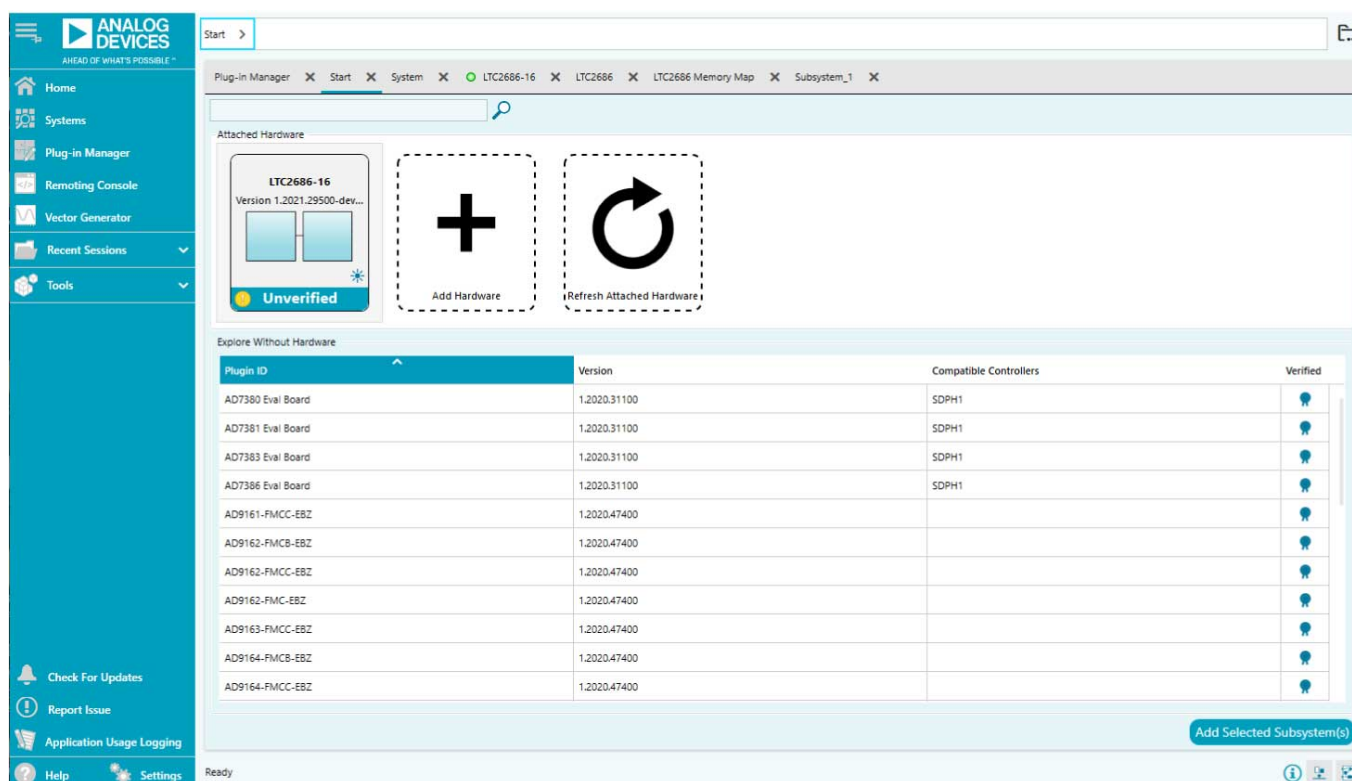
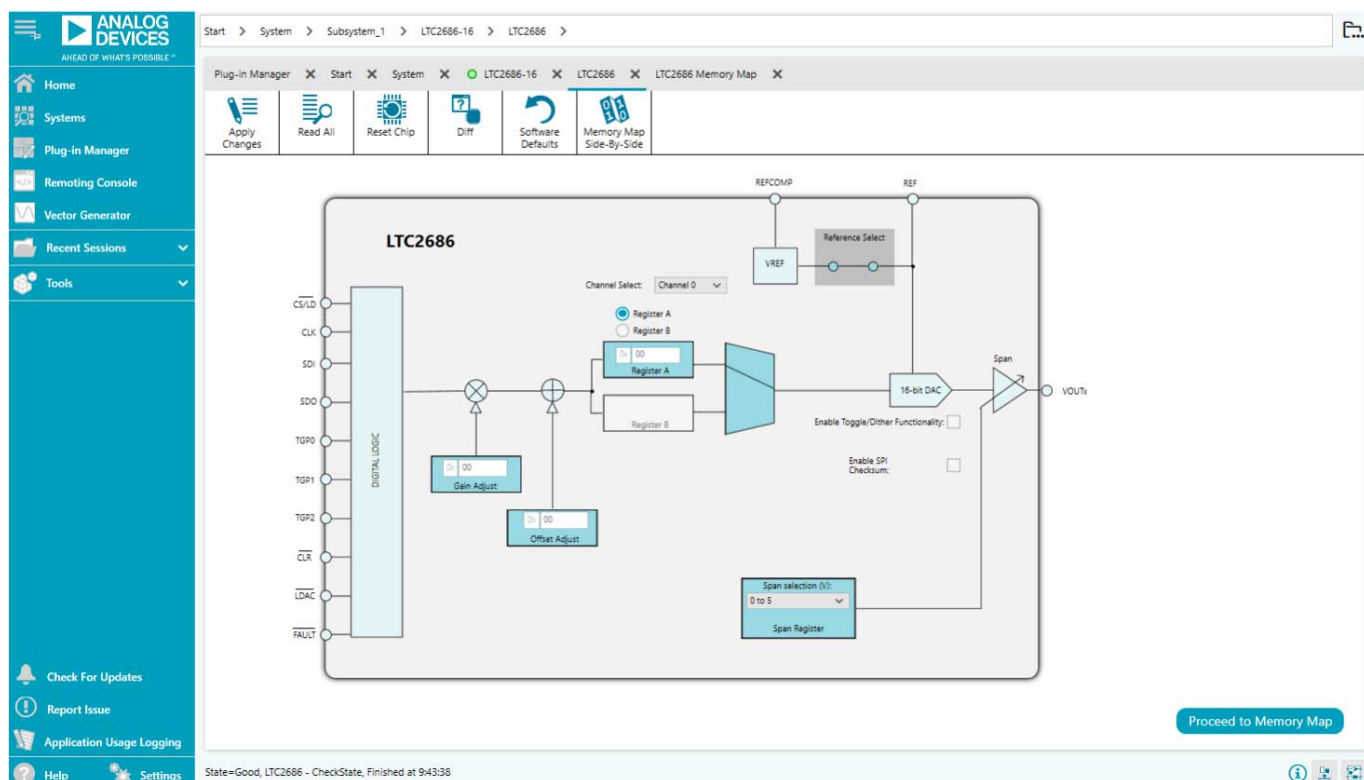
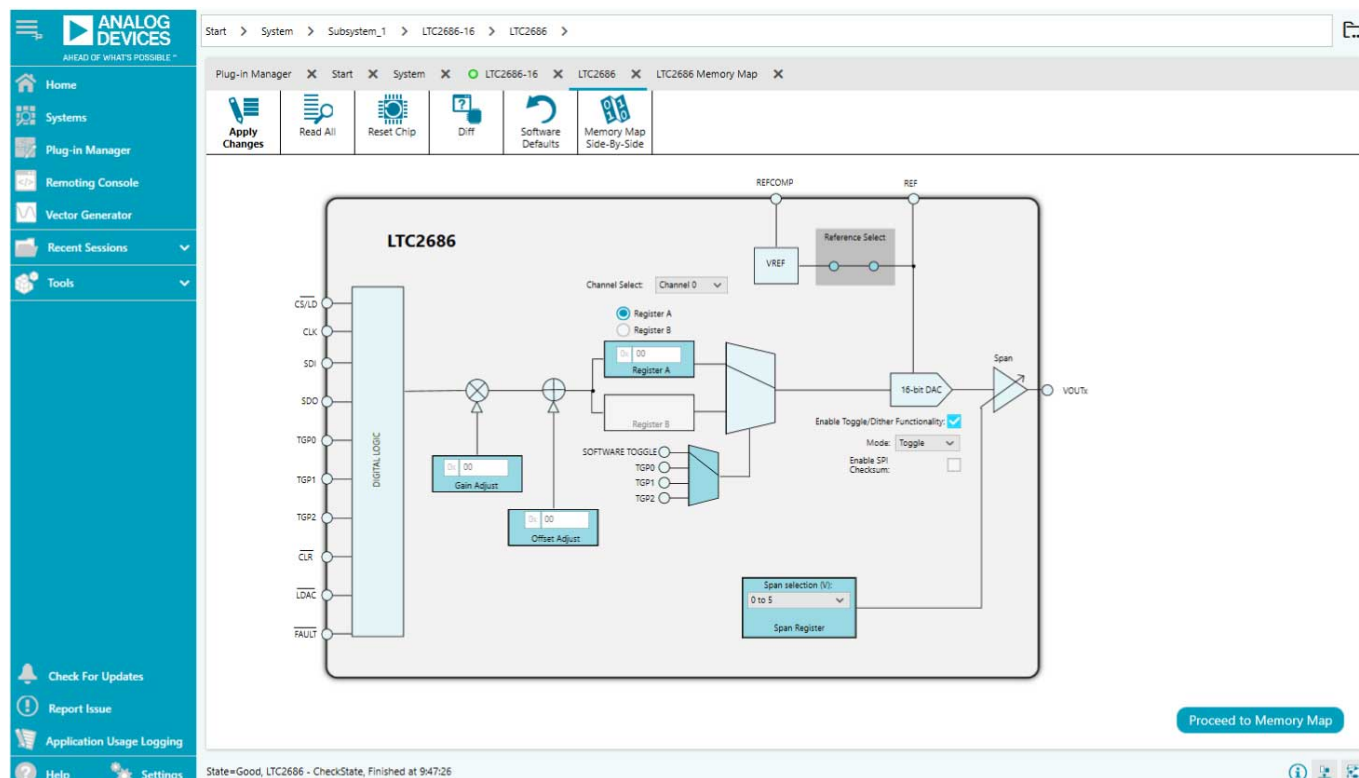
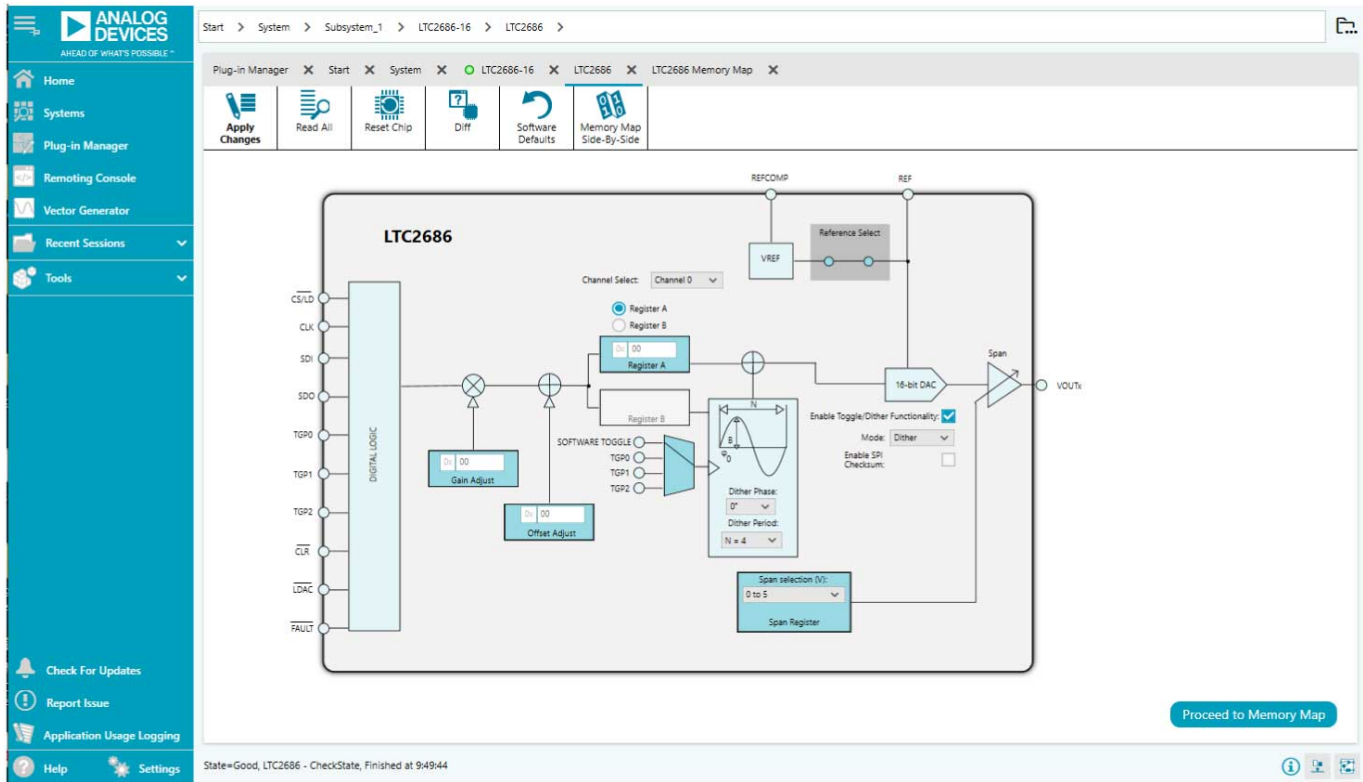

Figure 4. Interface Window
Figure 5. ACE Evaluation Software Main Window
Figure 6. Toggle View
Figure 7. Dither View
To start the ACE evaluation software, from the **Start** menu, click **Analog Devices > ACE**. The software window opens (see Figure 4) until the software recognizes the DC2904A-B. When the software recognizes the DC2904A-B, the main software window in Figure 5 opens.
In the main ACE evaluation software window (see Figure 5), each channel can be controlled. Various settings for the LTC2686 are available in this window, allowing the user to configure the output range, output voltage, gain adjustment, offset adjustment, toggle options, and dither options of each channel.
The DC2904A-B uses the LTC2686 internal reference to set the full-scale range. To apply an external reference, click the box labeled **Reference Select** (see Figure 5).
2. Select the desired range for the selected channel using the **Span selection** dropdown box (see Figure 5).
2. Type the desired value into the **Register A** text box (see Figure 5).
2. Type the desired hexadecimal value into the **Register A** (or **Register B**) text box (see Figure 5).
2. Type the desired hexadecimal offset or gain adjust value into the **Offset Adjust** or **Gain Adjust** text boxes (see Figure 5).
Toggle mode can be enabled by selecting the **Enable Toggle/Dither Functionality** check box (see Figure 5). This check box enables the toggle view shown in Figure 6. The toggle signal can then be applied to the selected pin or supplied internally.
After enabling the toggle view shown in Figure 6 as described in the Enabling Toggle Mode section, select the dither mode from the **Mode** dropdown box to bring up the dither options (see Figure 7).
To access the **LTC2686-16 Memory Map** view, click the **Proceed to Memory Map** button from the software main window (see Figure 5).